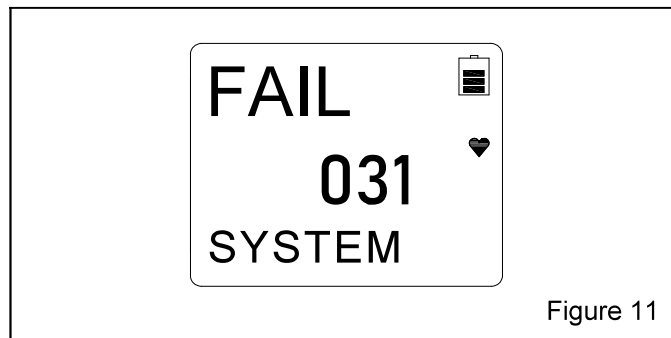

Figure 11
3.4.6.1 If a system failure occurs, the system failure screen will display an error code similar to that shown in Figure 11.
3.4.6.2 If the System Failure error code is anything but 031, as shown in Figure 11, the instrument cannot be used. Contact Clemco Industries as soon as possible. If the error code is 031, press and release POWER/MODE to continue into Measuring Mode if the instrument must be used temporarily.